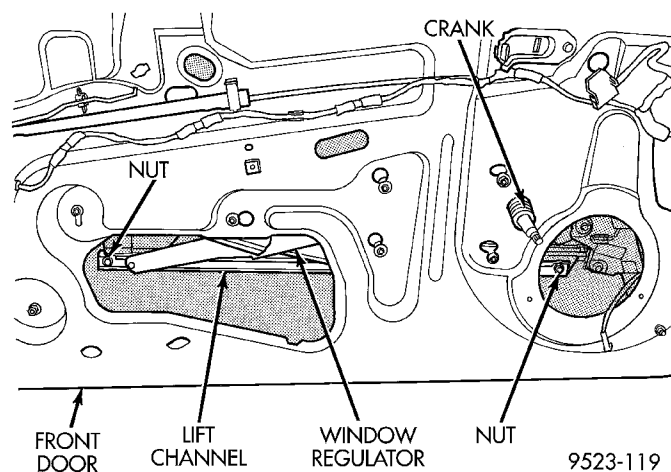
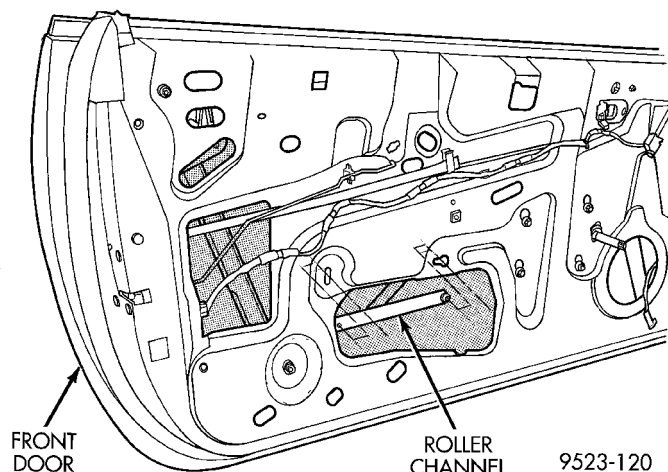
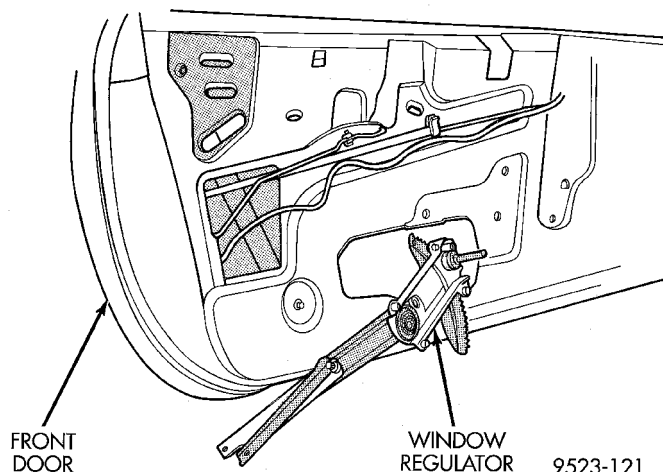
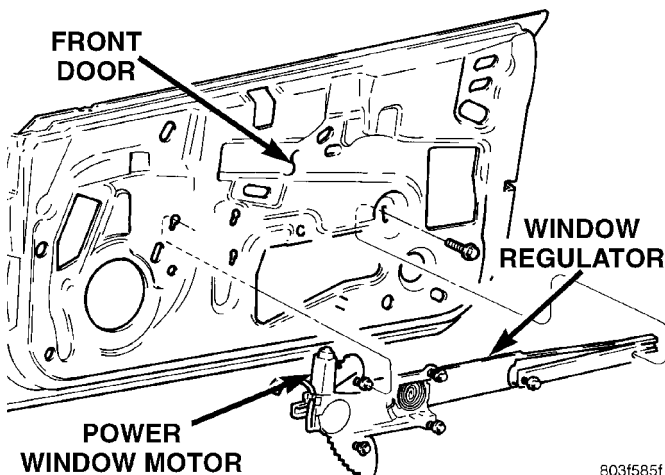

Fig. 18 Regulator Lift Channel
Fig. 19 Roller Channel
Fig. 20 Manual Window Regulator
Fig. 21 Power Window Regulator
- (1) Remove door trim panel and water shield.
- (2) Disconnect wire connector to power window motor, if so equipped.
- (3) Remove nuts holding regulator lift channel to door glass (Fig. 18).
- (4) Secure door glass in upward position.
- (5) Mark position of rear bolt of roller channel to inner door panel to aid in installation.
- (6) Remove bolt holding rear of roller channel to door panel.
- (7) Loosen bolt holding front of roller channel to door panel.
- (8) Separate roller channel from door panel (Fig. 19).
- (9) Loosen bolts holding window regulator to inner door panel.
- (10) Separate bolt heads from key-hole slots in inner door panel.
- (11) Remove window regulator through large hole in inner door panel (Fig. 20) and (Fig. 21).
- (12) Remove power window motor from regulator, if so equipped. Refer to Group 8S for Power Window Motor procedure.